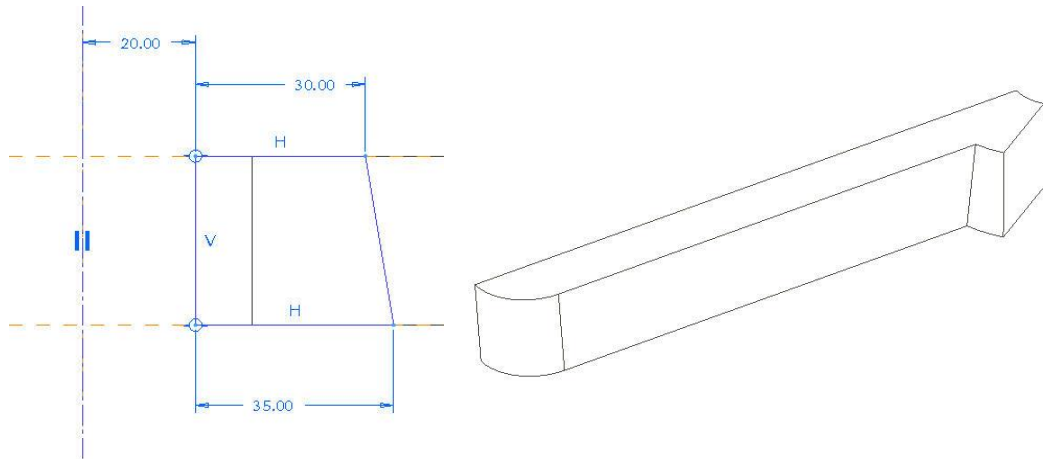

Figure 4 – Second Feature Sketch
- Next create a revolution feature. From the dashboard choose the plane **FRONT** as sketch plane. Draw the sketch in Figure 4 – notice that the top line is inline with the top of the first feature. Draw a centreline on top of the **RIGHT** datum. Exit sketcher ☒ and type in the revolve angle of **36**. Finish the feature with ☒.